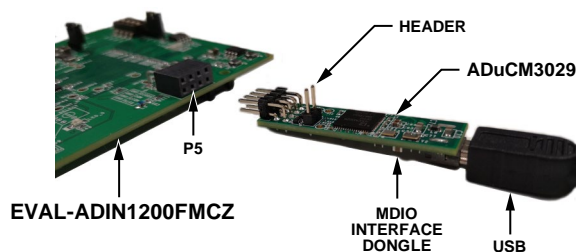

Figure 4. MDIO Interface Dongle Connection to the USB Cable and EVAL-ADIN1200FMCZ
The MDIO interface dongle is a separate board included in the EVAL-ADIN1200FMCZ evaluation kit. The MDIO interface dongle has an on-board ADuCM3029 microcontroller and an FTDI Chip FT232RQ universal asynchronous receive transmitter (UART) to USB interface. The schematic for the MDIO interface dongle is shown in Figure 41. When using the MDIO interface dongle, connect the USB cable to the MDIO interface dongle first, then connect the MDIO interface dongle to the EVAL-ADIN1200FMCZ with the ADuCM3029 facing up (see Figure 4).
4. Ensure that the **ADuCM3029** microcontroller faces up (see Figure 4) and connect the MDIO interface dongle to the EVAL-ADIN1200FMCZ. The MDIO interface dongle is not keyed.